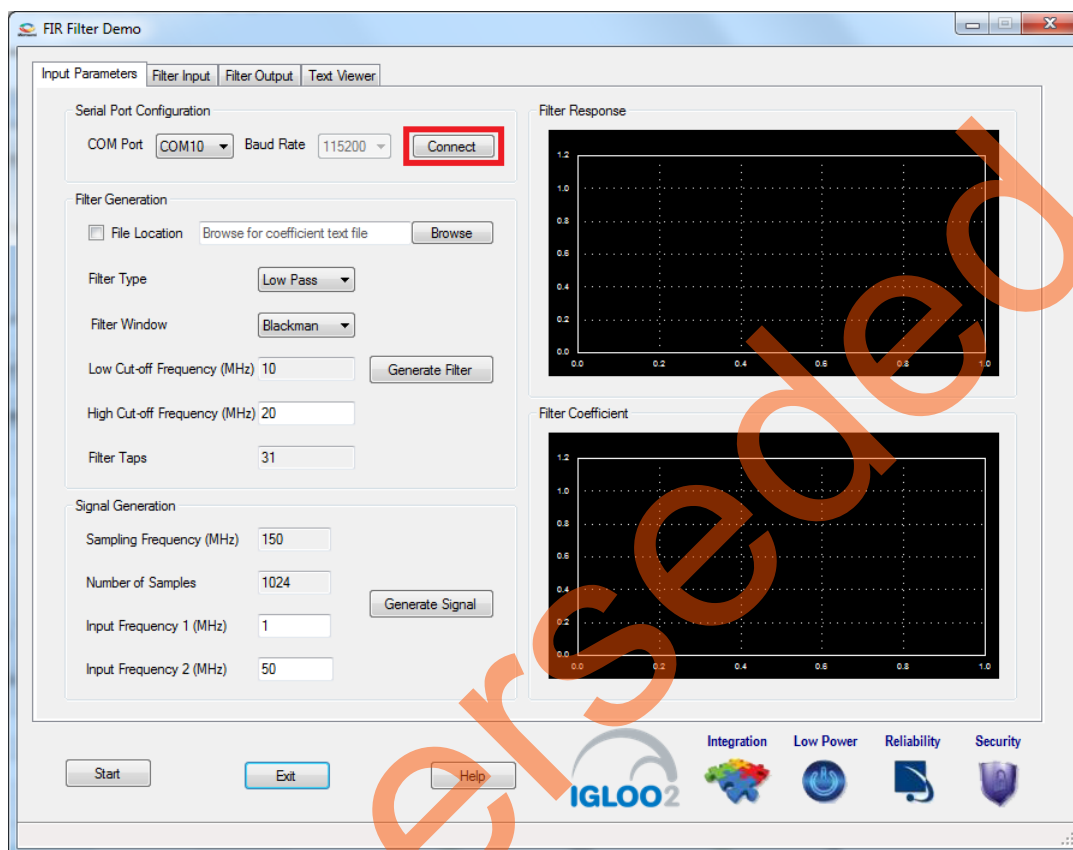

Figure 10 • Serial Port Configuration
(\VGL2_FIR_FILTER\GUNG2_FIR_FILTER.exe). The FIR Filter Demo window is displayed, refer to Figure 10.
2. **Serial Port Configuration:** The COM port number is automatically detected and the baud rate is fixed at 115200. Press Connect. Refer to Figure 10.